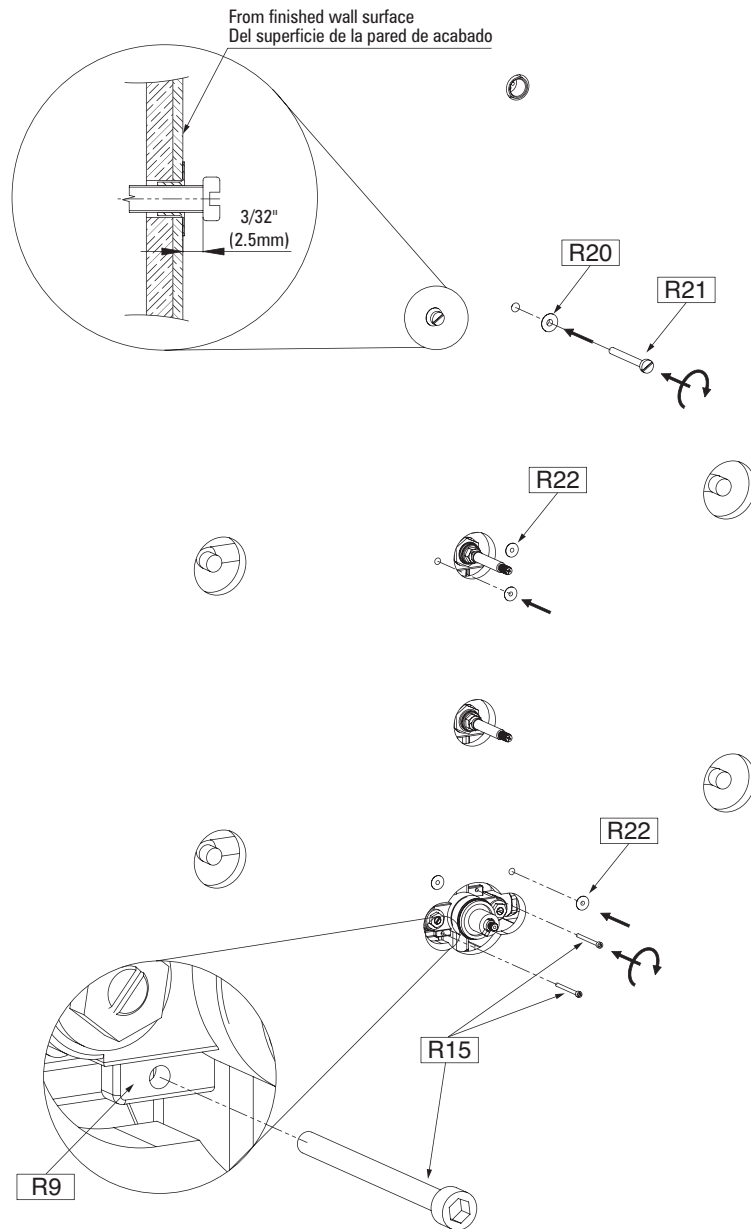

FIG. 10
See fig. 10
- Put the teflon sleeves (**R20**) into holes that were earlier prepared. Thread the screws (**R21**) in so that the heads are positioned about 3/32" (2.5mm) distance from the surface of the wall – refer to detail on the fig. 10.
Vea fig. 10